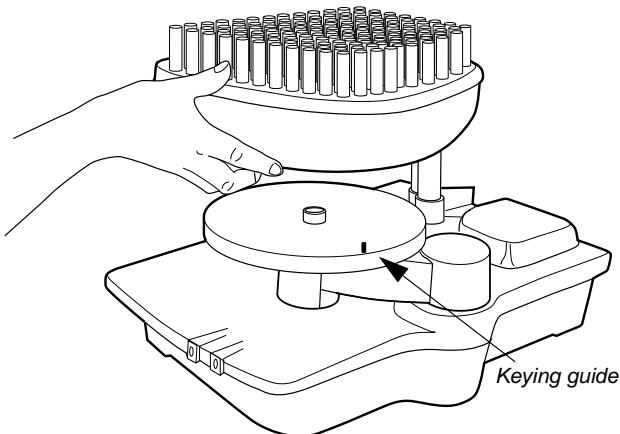

Figure 2-8. Fitting the rack to the rack holder
- 2 Fit the rack to the rack holder using the keying guide on the holder to position it correctly, see Figure 2-8. Turn the rack on the holder until it snaps firmly in position.